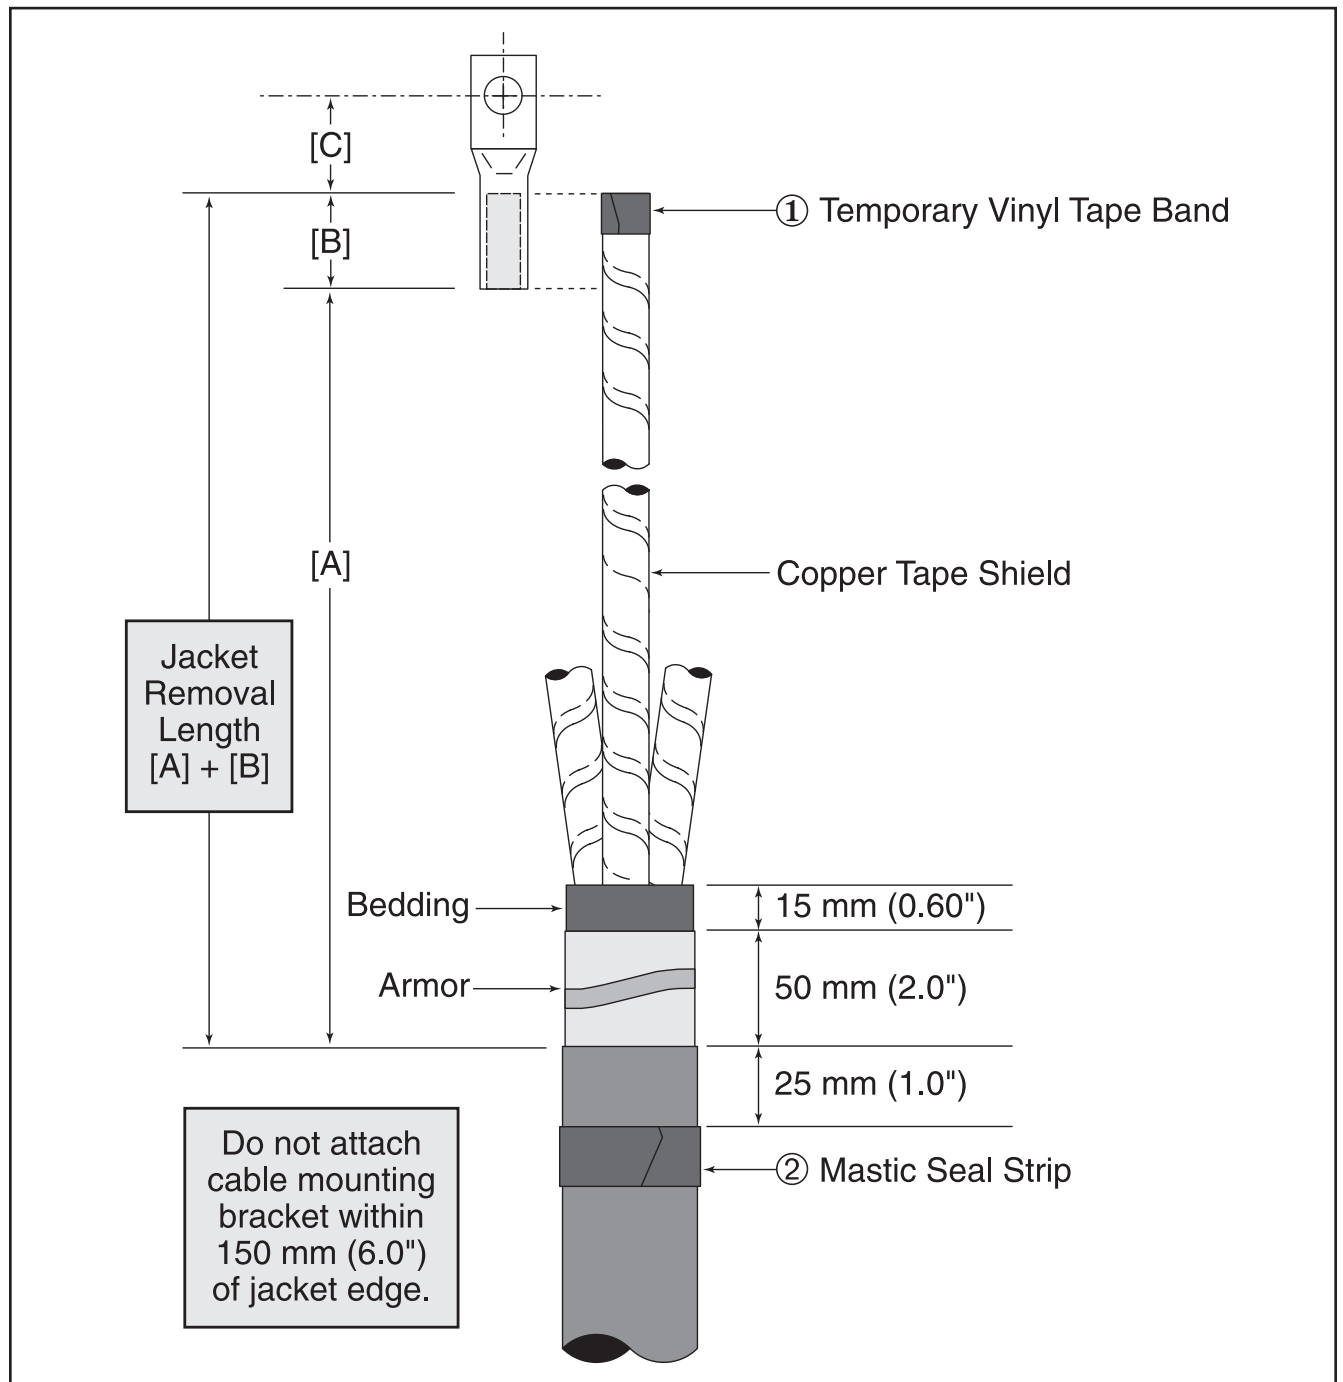

Figure 1
1.1 Determine cable jacket removal length required for correct phase spacing and bolted terminal lug connections ([A] + [B] Figure 1, based on the longest phase to be connected). Allow for dimension [C] as needed.
1.2 Remove cable jacket, armor, bedding (inner sheath) and core fillers according to Figure 1 dimensions. Secure each copper tape shield end with a temporary band of vinyl tape (① Figure 1).
1.3 Using light tension, wrap a mastic seal strip around cable jacket 25 mm (1.0") below the cut edge (② Figure 1).